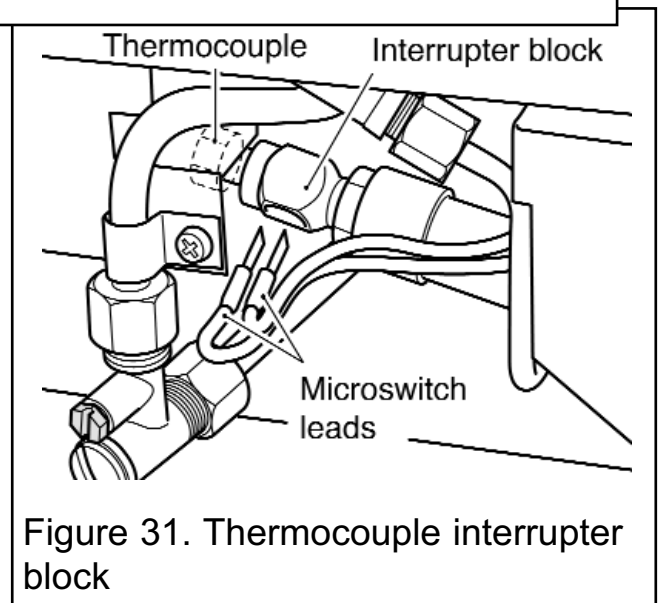

Figure 31. Thermocouple interrupter block
2. Loosen the thermocouple nut to free the microswitch leads and pull the leads clear of the thermocouple interrupter block (See figure 31).